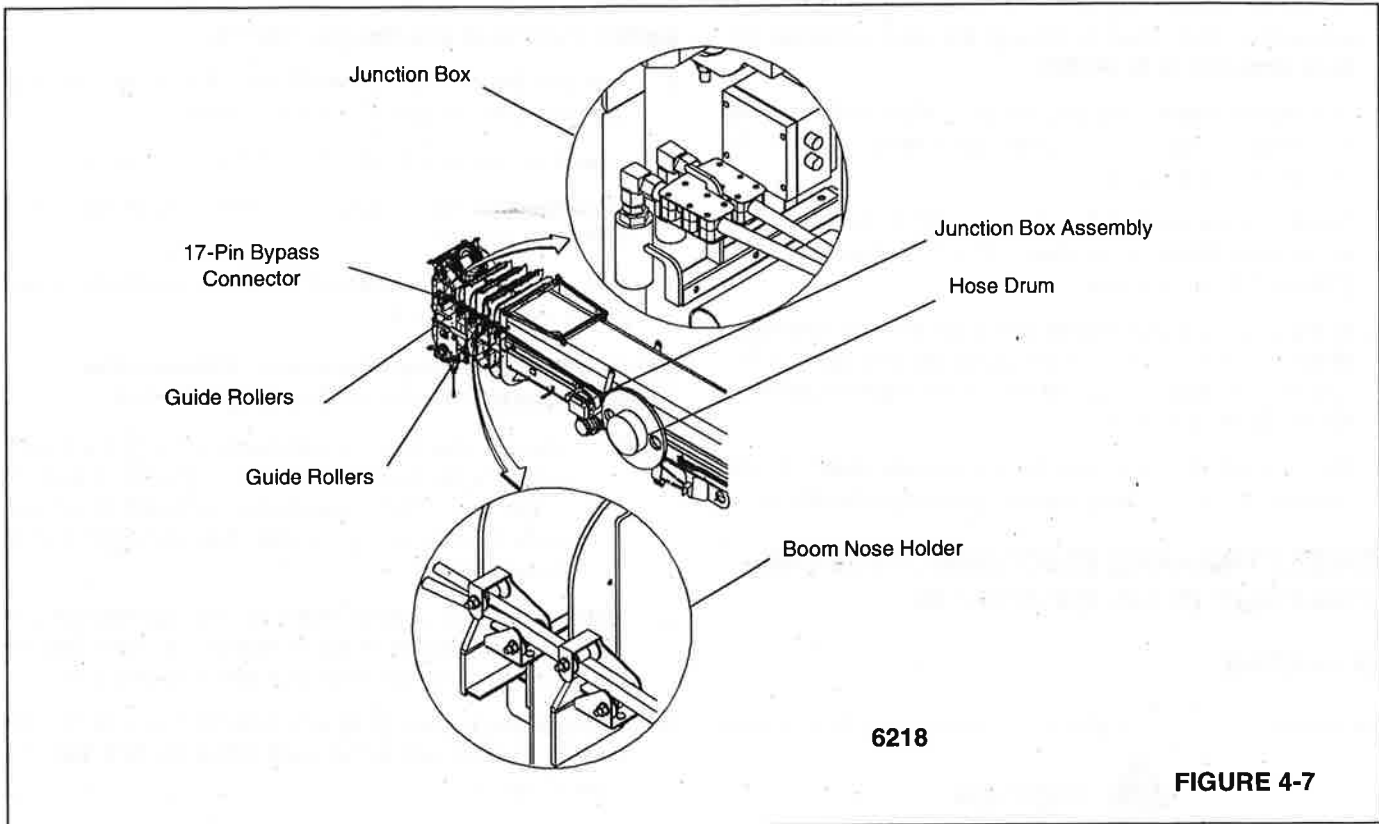

FIGURE 4-7
1. Remove the 17 pin bypass (Figure 4-7) plug from the electrical junction box on the boom nose.
4. Connect the boom extension cable to the boom nose junction box (Figure 4-7).
1. Disconnect the boom extension cable from the boom nose junction box (Figure 4-7).
4. Install the 17 pin bypass plug into the open connector on the boom nose junction box (Figure 4-7).